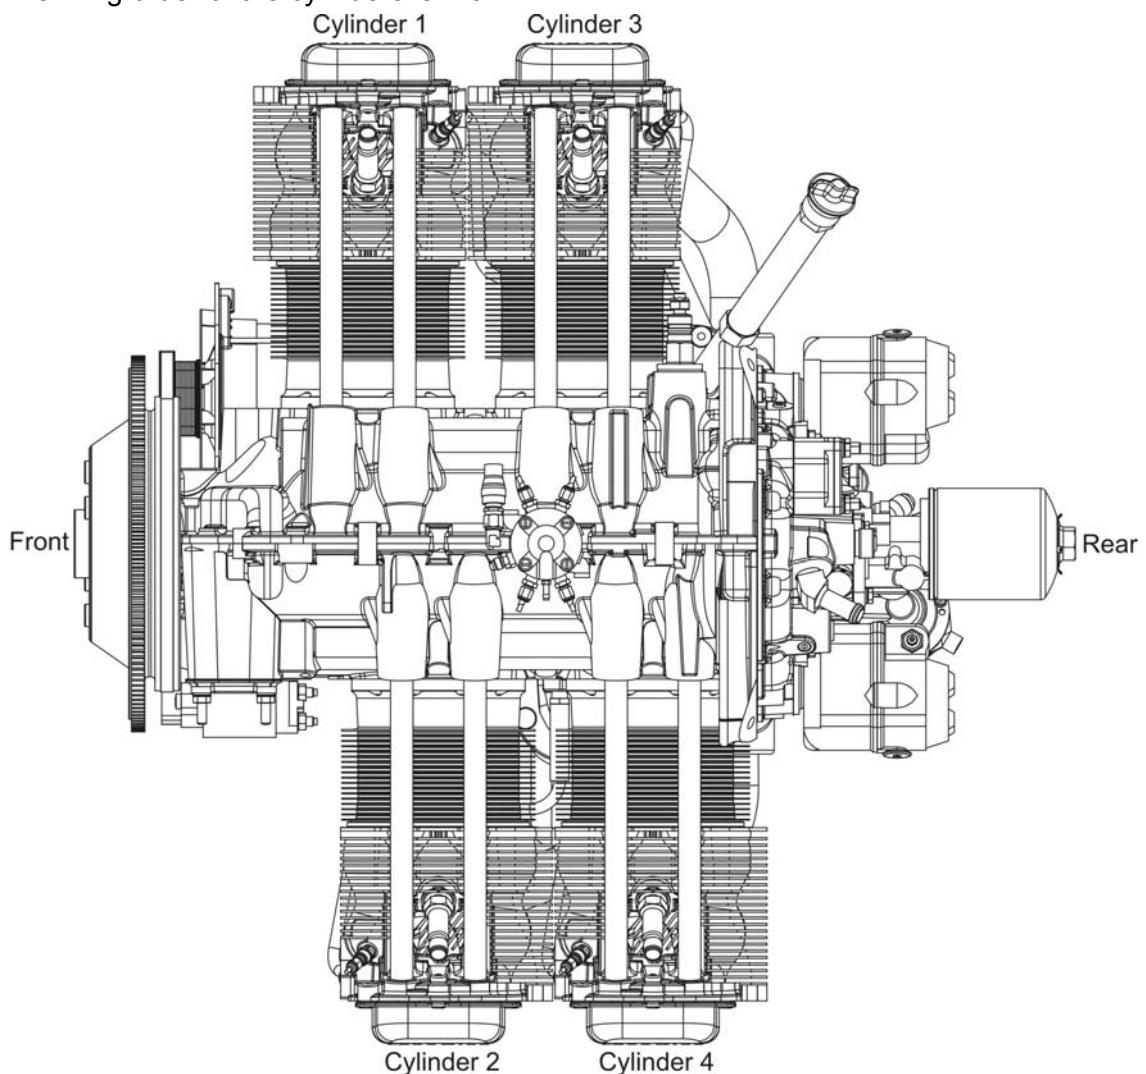

Figure 2 - Cylinder Number Designation
- When you view the engine from the top, the left side cylinders are 2-4. Cylinder 2 is at the front of the engine. Refer to Figure 2.
- When you view the engine from the top, the cylinders on the right are 1-3. Cylinder 1 is at the front of the engine. Refer to Figure 2.